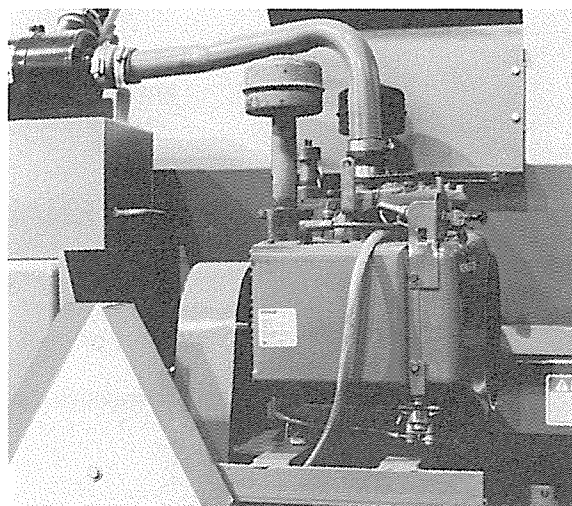

Figure 38
- (c) Clean cooling fins and external surface of engine. Ensure shrouds are re-installed. Failure to do so will result in damage to the engine due to overheating. (See Fig. 38).